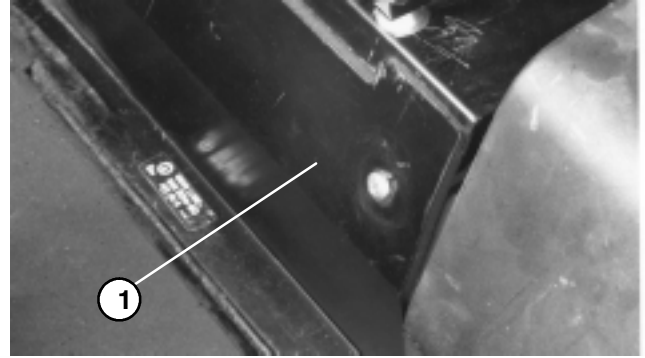

Figure 6
CHECK FRONT AXLE OIL LEVEL (Fig. 6 & 7)
2. Remove access panel (Fig. 6), in front of seat, to expose front axle / dipstick.